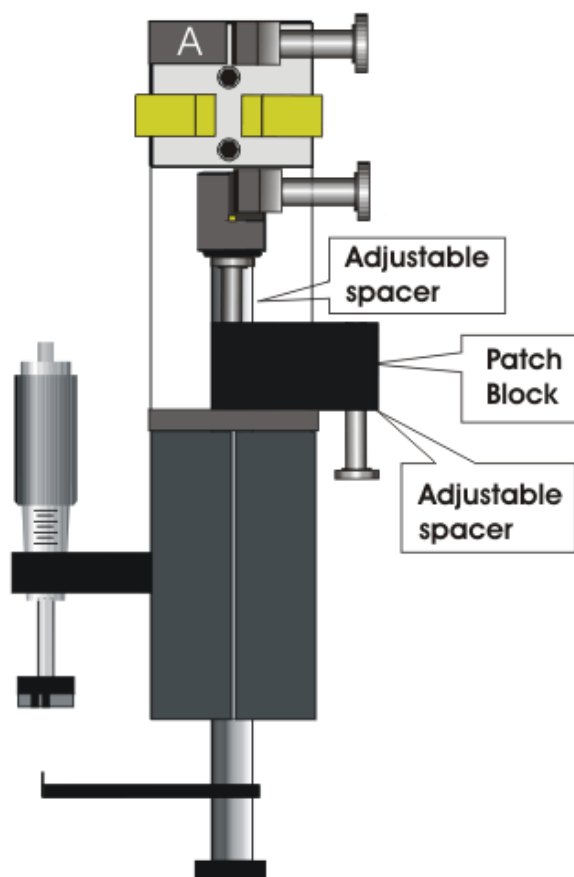

Figure 1-3. Patch block placement.
1.5.3 Patch Block (Figure 1-3)
Set the HEAT switch to HEAT 1 and load capillary. Place the Patch Block so that it sits on the top of the bearing block and behind the slide bar as shown in Figure 1-3. The head of the screw will act to stop the slide mechanism by hitting the underside of the lower slide. The length of the first pull is determined by the space between the top of the Patch Block screw and the bottom of the lower glass clamp assembly. Press PULL, wait until the slide drops onto the screw, and then press RESET. Remove Patch Block.